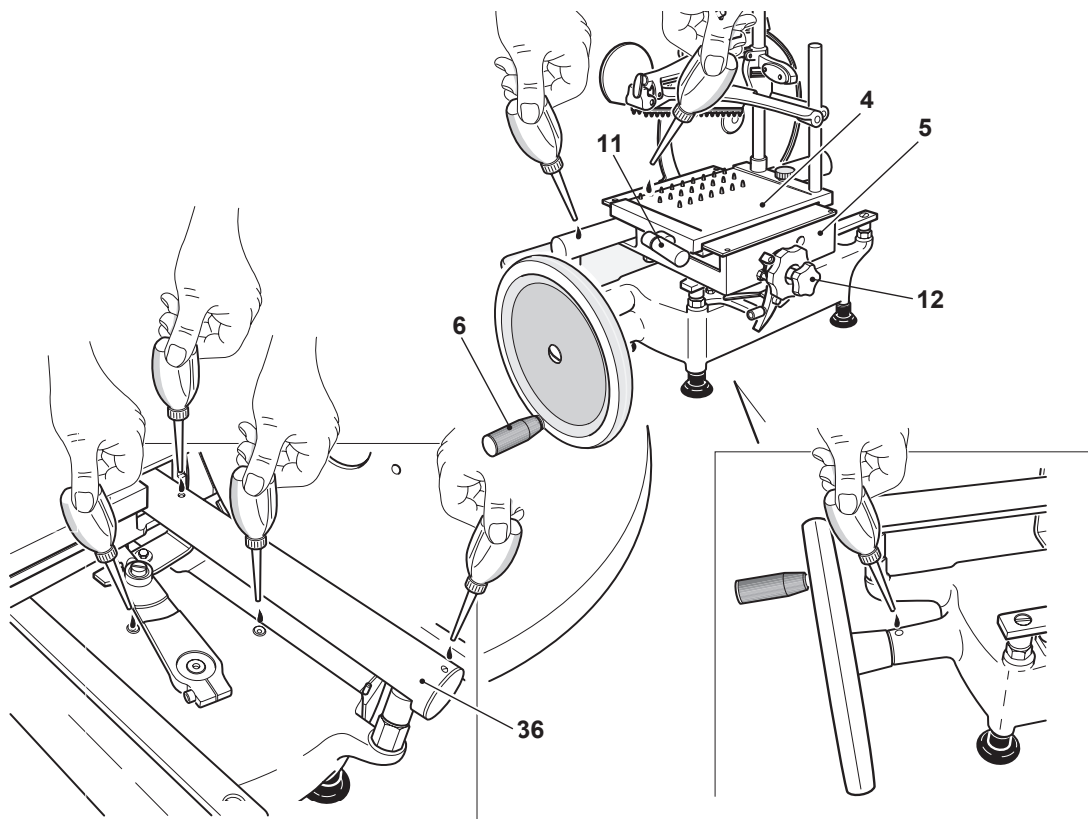

Figure 22-1
1. Once a week, apply 2 to 3 drops of lubricant to the carriage (5) guide rail (Figure 22-1).
2. Use the product holder operating handwheel (12) to slide the carriage (5) back and forth 3 to 4 times.
3. Apply 2 to 3 drops of lubricant to the product holder (4).
4. Turn the product holder operating handle (12) or gently press down on the fast forward lever (11) to move the product holder (4) back and forth 3 to 4 times.
5. Apply 2 to 3 drops of lubricant to the guide rails (36).
6. Turn the flywheel handle (6) clockwise 3 or 4 times to move the product holder (4) back and forth in order to lubricate the guide rails.